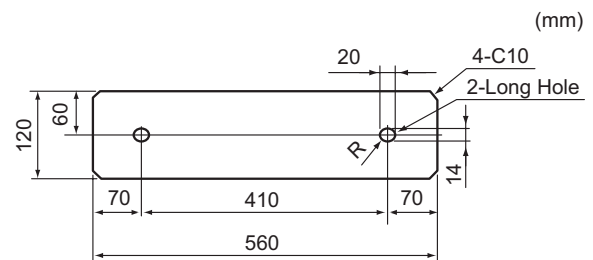

Fig. 5.9 Frame and Base Installation
- (8) The whole of the base of the outdoor unit should be installed on a foundation. When using vibration-proof mat, it should also be positioned the same way. When installing the outdoor unit on a field-supplied frame, use metal plates to adjust the frame width for stable installation as shown in Fig. 5.9.